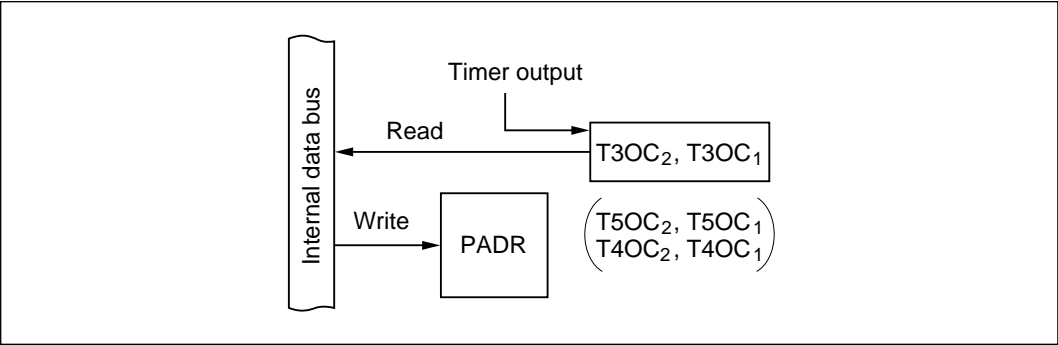

Figure 9-66 Output Compare Pins (Modes 1 to 7)
(6) **Timer Output Pins (PA₆, PA₅, PA₃ to PA₀: Modes 1 to 7):** Figure 9-66 shows a block diagram illustrating the timer output function. Table 9-49 indicates register read/write data. When PA₆, PA₅, and PA₃ to PA₀ are used for T3OC₂, T3OC₁, T5OC₂, T5OC₁, T4OC₂, and T4OC₁ output, values written in the port A data register (PADR) have no effect on the timer output. PADR can be read to monitor the timer output level (T3OC₂, T3OC₁, T5OC₂, T5OC₁, T4OC₂, T4OC₁).